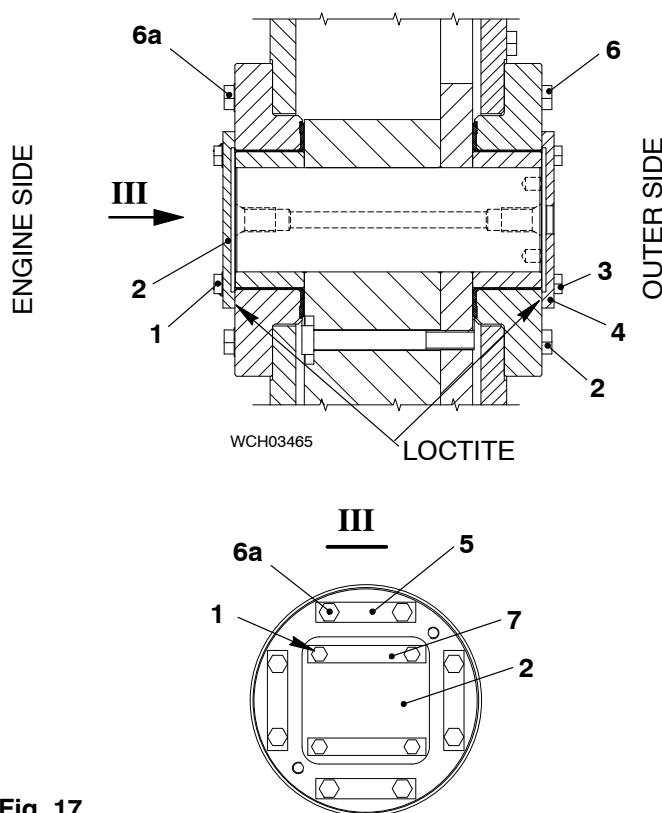

Fig. 17
- 1) Install eight bolts M20x70(6, Fig. 17) on each bearing at outer side and tighten them with standard torque.
- 2) Install eight bolts M20x70(6a) on each bearing at engine side with locking plates (5). Tighten bolts with standard torque and lock them.
- 4) Apply Loctite No. 640 to the contact surface of bearing cover (2).
- 5) Install bearing cover (2) with four screws M16x35 (1) and locking plates (7). Tighten with standard torque and lock the screws with locking plates.
- 6) Apply Loctite No. 640 to the contact surface of bearing cover (4).
- 7) Install bearing cover (4) with four screws M16x35 (3). Tighten with standard torque.